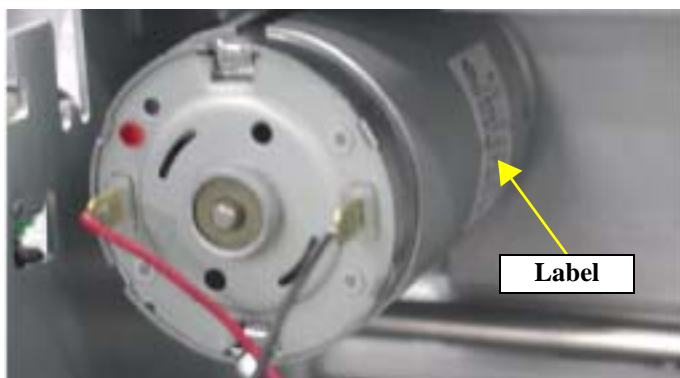

Figure 4-108. Installing the CR Motor
- When reinstalling the CR Motor, face the label of the CR Motor rightward as seen from the printer rear. Refer to Figure 4-108, "Installing the CR Motor".